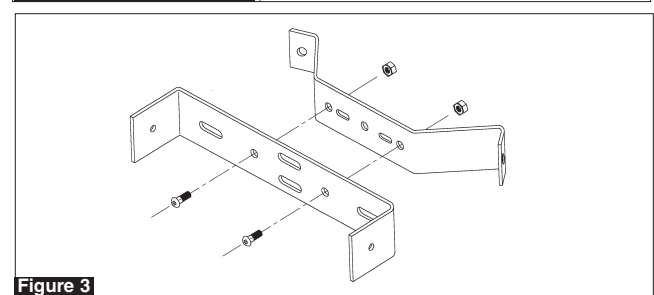

Figure 3
3. Assemble U-brackets to corner bracket, using small screws and nuts (*See Figure 3*).